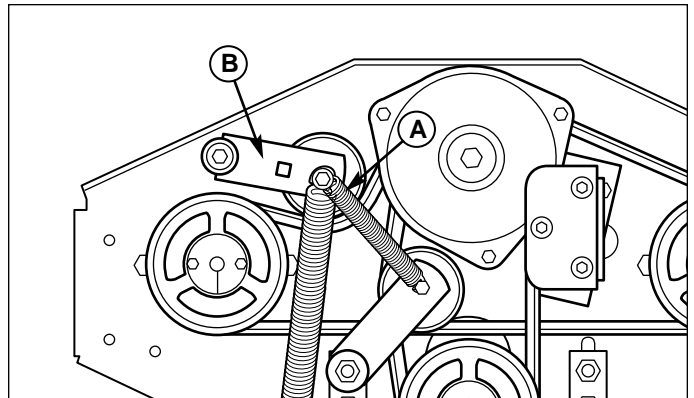

Figure 7. Clutch Idler Spring Replacement
6. Reinstall the clutch belt idler spring (A, Figure 7) on the pump drive idler arm (B, Figure 7). Make sure the belts are properly seated in all the pulley grooves.